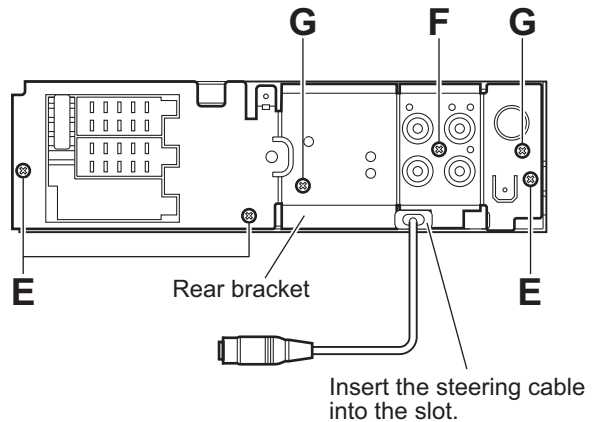

Fig.6
3.1.5 Removing the rear bracket (See Fig.6)
3.1.6 Removing the main board (See Figs.6 and 7)
- (1) Remove the three screws **E** attaching the rear bracket on the back side of the main board. (See fig.6.)